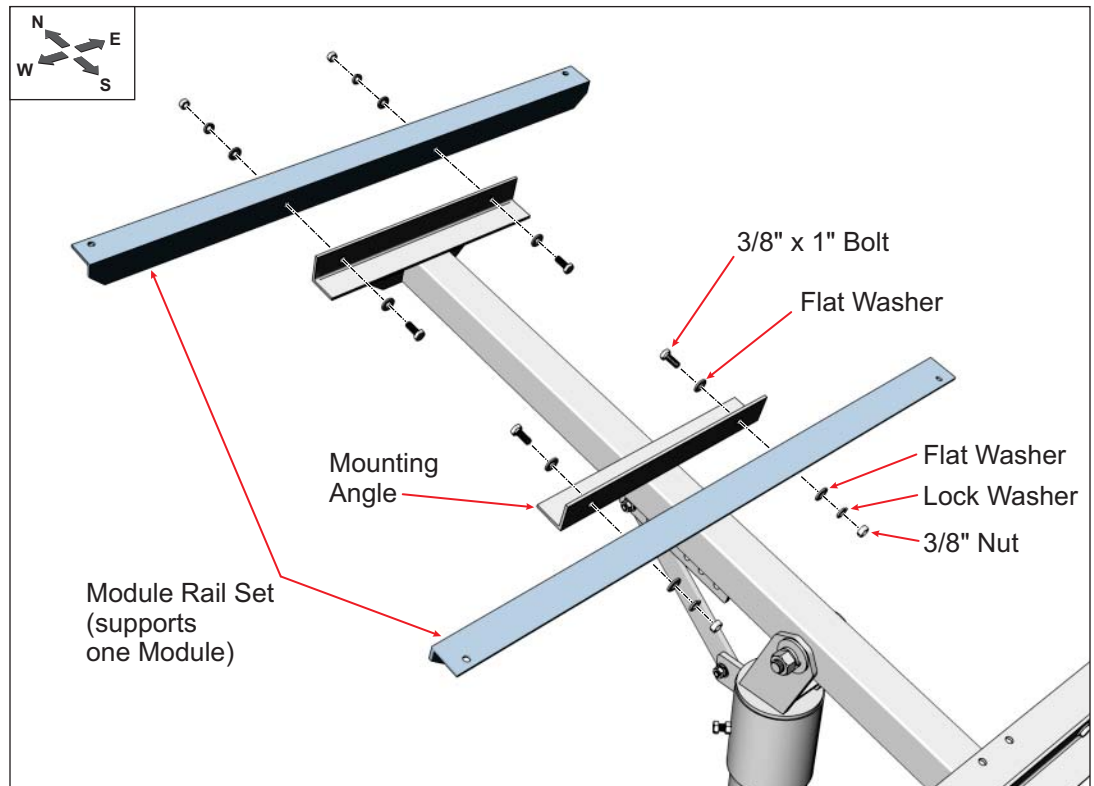

Figure 3-3: Installing the Short Set of Module Rails
- A. Align the short Module Rail mounting holes with the holes of the Mounting Angle and secure with 3/8" x 1" bolts and hardware. Finger-tighten for now. (See Figure 3-3)